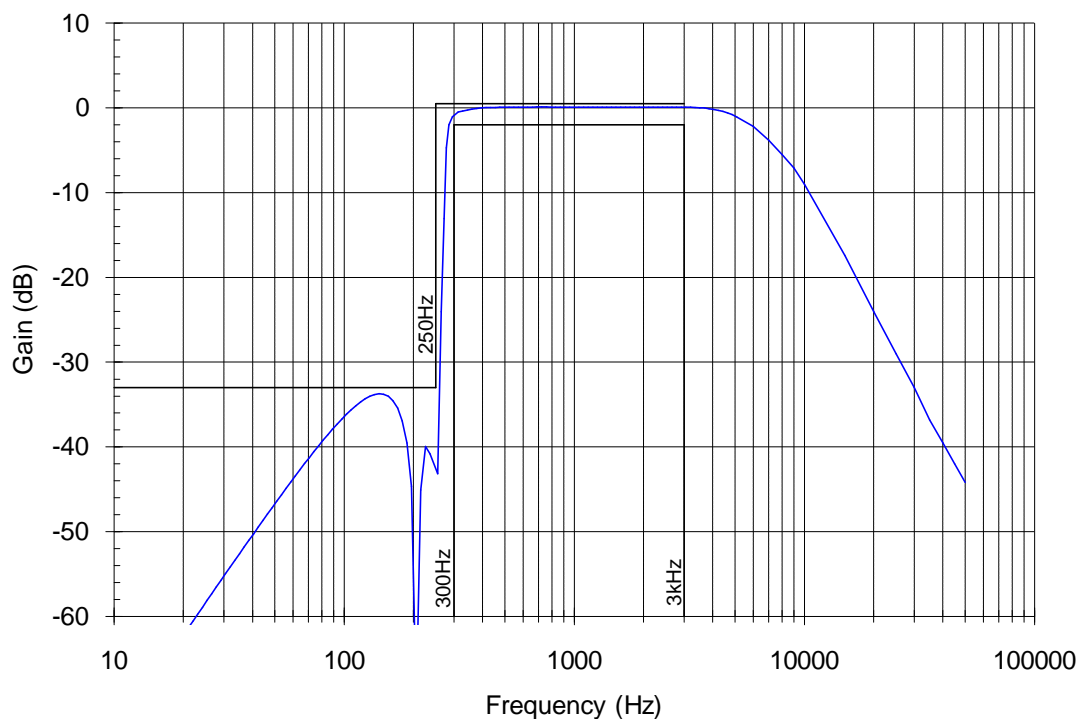

Figure 3 Audio Band-Pass Filter Frequency Response
8. See filter response (Figure 3).